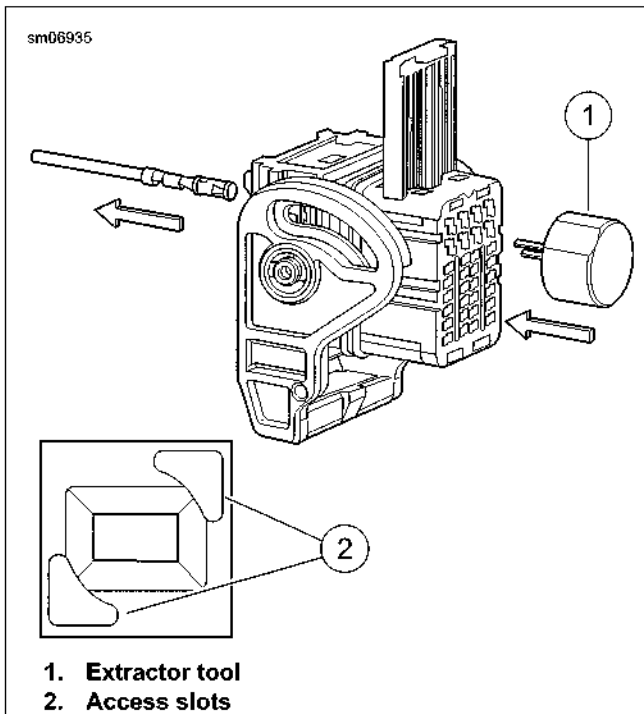

Figure A-46. Terminal Removal
8. See Figure A-46. Insert the pins of the CMC extractor tool (1) into the access slots (2) of the terminal cavity and retract the lead and terminal.